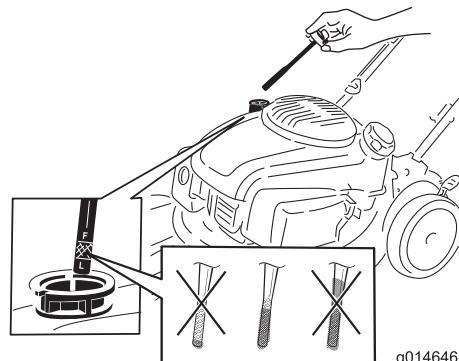

Figure 11
- Remove the dipstick, wipe it clean, and insert it into the oil-filler neck, but **do not** screw it in (Figure 11).
- Remove the dipstick and check the oil level (Figure 11). If the oil level is below the Add mark on the dipstick, **slowly** pour oil into the oil-fill tube to raise the oil level to the Full mark on the dipstick. **Do not overfill.** (Max. fill: 0.53 L (18 oz), type: 10W-30 or SAE 30 detergent oil with an API service classification of SJ or higher.)